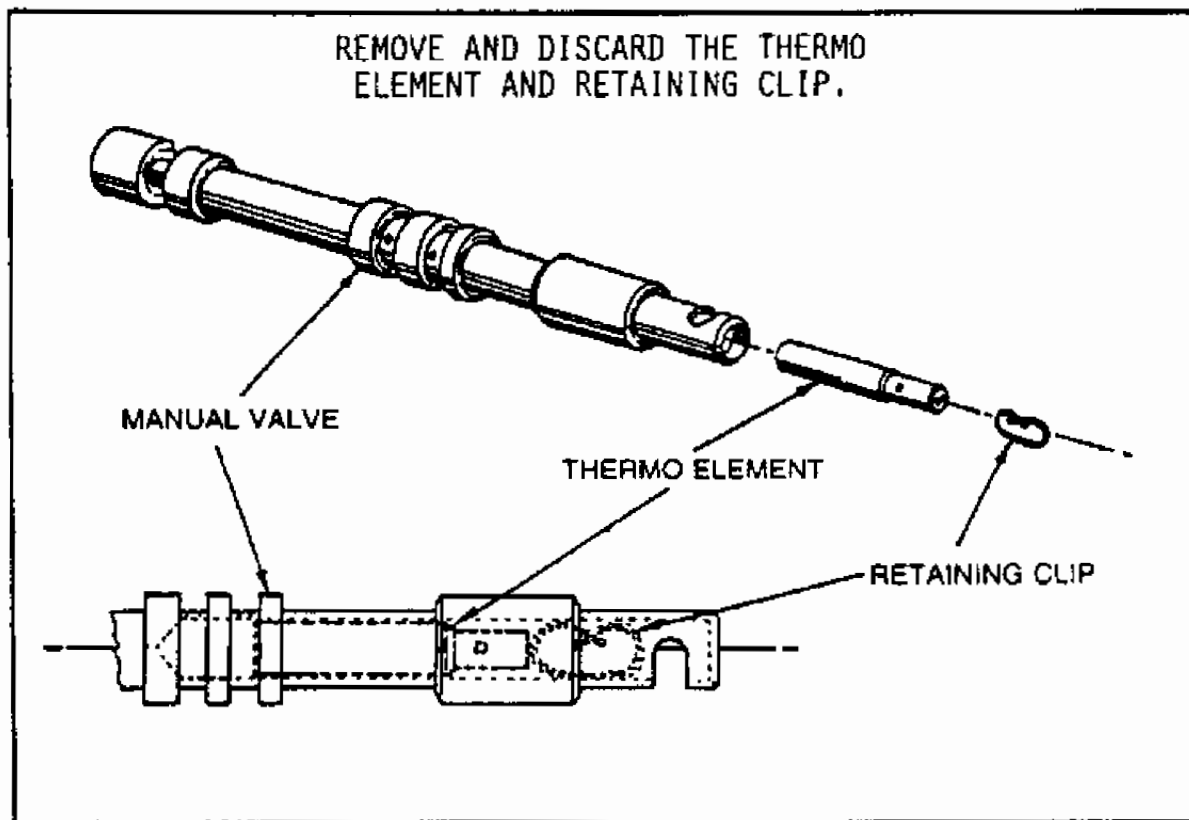

Figure 37
- CORRECTION:** Remove and discard the thermo-element and the retaining clip, located inside the manual valve, on all vehicles so equipped (See Figure 37). This should be done as standard procedure during ALL rebuilds.